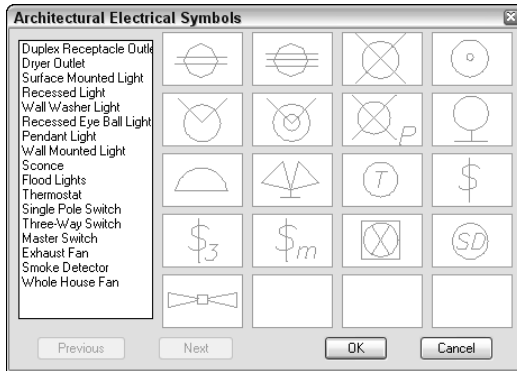

Figure 33-14: The AB4 menu's Image Tile section creates the Architectural Electrical Symbols dialog box.
8. Click the AB4 menu. It now has a new item, Architectural Elect Symbols. Choose this item. The Architectural Electrical Symbols dialog box opens, created by the Image Tile section, as shown in Figure 33-14.